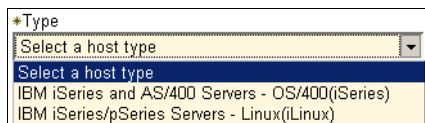

Figure 11-13 Express configuration: Available host types for System i
6. Selecting **Next** opens the host type configuration window, where you have to specify the host type for your attached host system. A list of available host types is shown in Figure 11-13. You also have to enter a nickname (maximum of 16 characters) for the new host system. An optional description (maximum of 256 characters) can be entered in the description field.